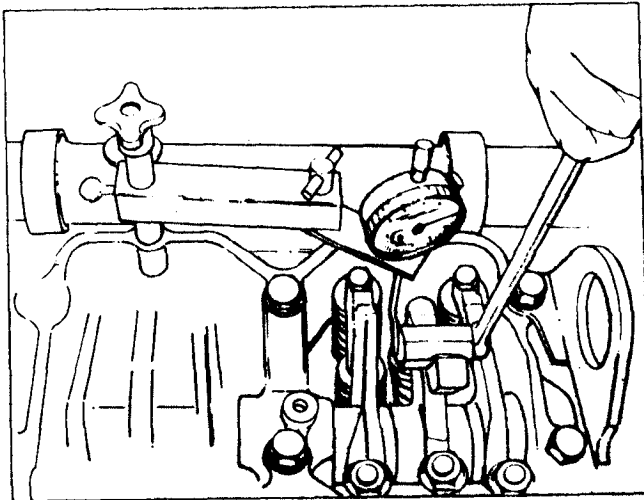

Fig. 14-73 (OM1052L). Actuate The Rocker Lever.
4. Actuate the rocker lever to push the injector plunger to the bottom of its travel. Use the ST-1193 Rocker Lever Actuator from the 3375842 Adjustment Kit to actuate the rocker lever, Fig. 14-73. Let the plunger rise to the top of its travel. Actuate the lever again and set the indicator at zero as you hold the plunger at the bottom of its travel.